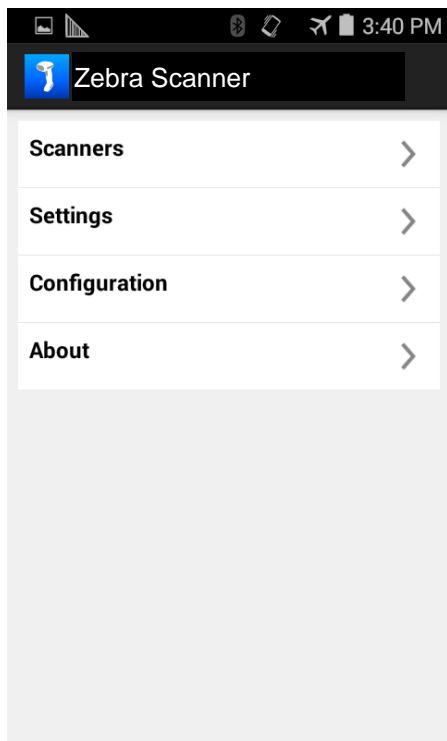

Figure 5-1 *Home Screen*
5. Touch the *Zebra Scanner Control for Android* icon () on the mobile device to launch the *Home* screen (Figure 5-1).
To display the *Scanners* screen touch *Scanners* from the *Home* screen (Figure 5-1). The *Scanners* screen displays all scanners paired and connected to the mobile device. Select a device in the list to display the *Active Scanner* screen (see Active Scanner Screen on page 5-6). If no scanners were previously paired/connected, to the mobile device, a connection is required (see Connecting the Mobile Device and the Scanner).
2. Touch *Scanners* from the *Home* screen (Figure 5-1). The following screen displays.
To display the *Settings* screen touch *Settings* from the *Home* screen (Figure 5-1).
To display the *Scanner Configurations* screen touch *Configuration* from the *Home* screen (Figure 5-1).
To display the *About* screen touch *About* from the *Home* screen (Figure 5-1).